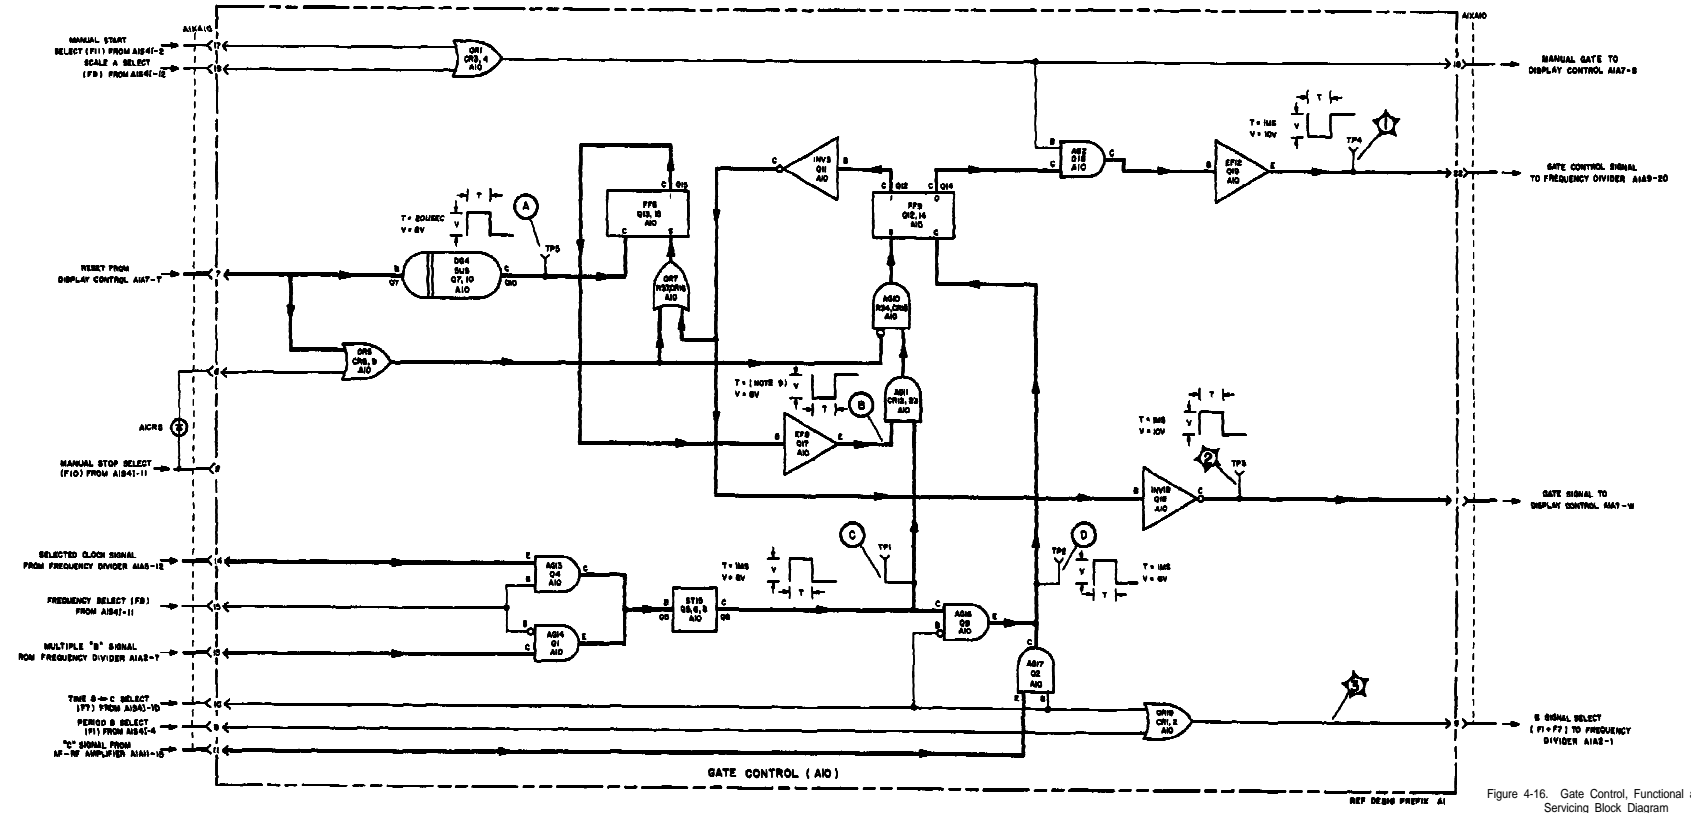

Figure 4-16. Gate Control, Functional and Servicing Block Diagram
GATE CONTROL FUNCTIONAL DESCRIPTION.- The gate control functional section provides the gate control signal to the count decades functional section. This signal determines the length of time count decades count the signal applied to their input. The gate control functional section is constructed on printed circuit board A1A10. Figure 4-16 is the functional and servicing block diagram for the section.
c. USEFUL ILLUSTRATIONS. - Illustrations useful in maintaining this functional section are: figures 4-16, 5-46, and 5-69.